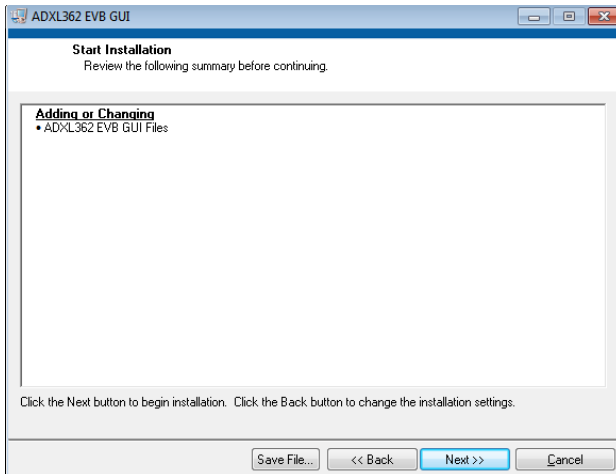

Figure 12. ADXL362 EVB GUI Start Installation (Listing Varies Based on PC Requirements)
3. Read the license agreement before accepting it; then, click **Next**. The installer lists the required components to install on your PC (see Figure 12).